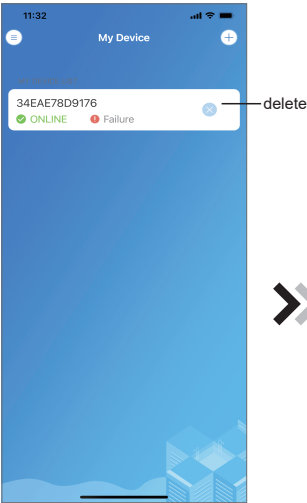

Fig.21 Device management interface
- 10. After WIFI bonding is done, and jump back to My Device(Fig.21);